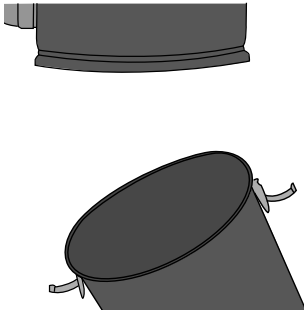

figure 13A
2. Release the two clamps, remove the dust canister, and empty it (**figure 13A**).